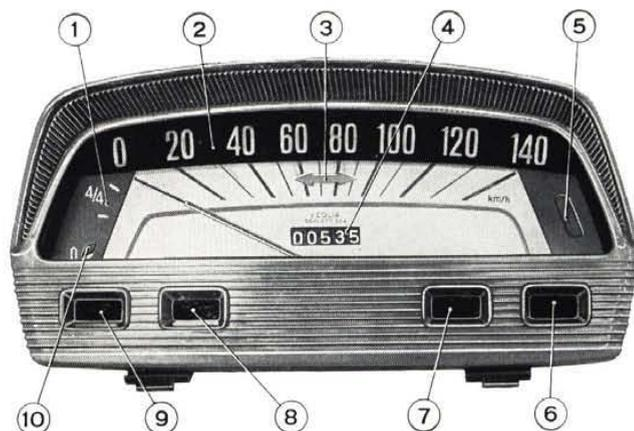

Fig. 371 - Close-up view of the instrument cluster.
**Instrument cluster** (5, fig. 370), incorporating (fig. 371):